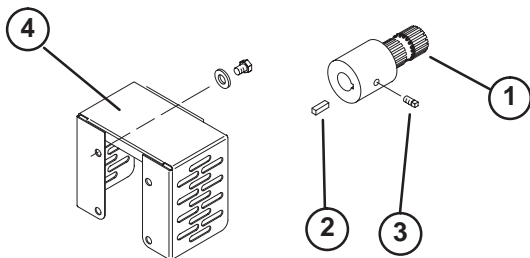

Figure 4
2. Mount spline shaft (supplied in installation kit) to output shaft with key and (2) square head set screw. Apply Loctite to set screw threads and Never-Seez to output shaft before installation. Torque set screws to 140 in/lb (Fig. 4).
3. Using old output shaft cover mounting holes, mount new power take-off cover (supplied in installation kit) with (2) 3/8-16 x .50" lg. capscrews and .40 I.D. x .81 O.D. flat washers (Fig. 4).